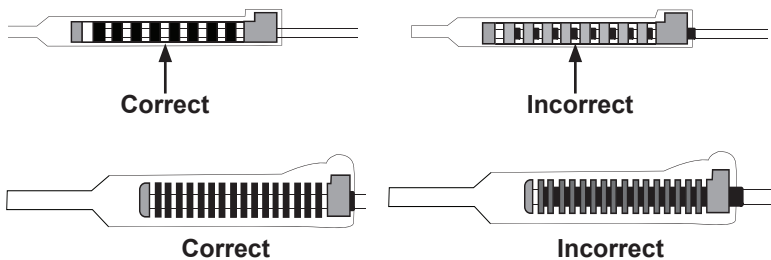

Figure 32. Alignment of the DBS Lead in the Lead Extension Connector (8 and 16 Contact Leads Shown)
- Visually check that the DBS Lead electrodes are aligned with the Lead Extension Contacts (Figure 32).